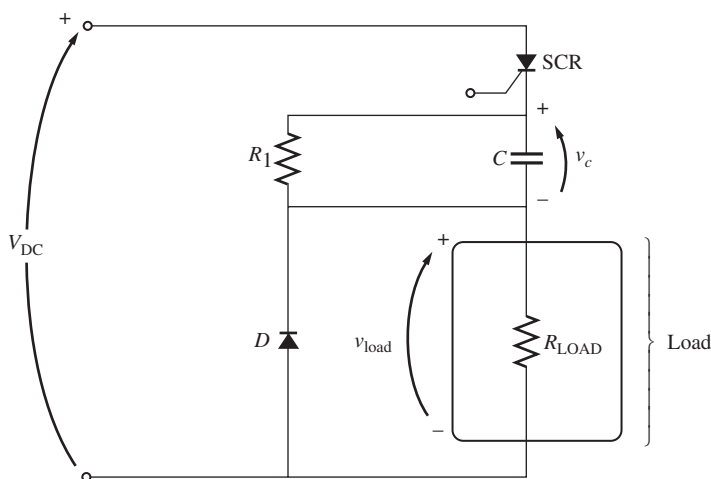

FIGURE P3–5
- 3–10.** A series-capacitor forced commutation chopper circuit supplying a purely resistive load is shown in Figure P3–5.
- 3–11.** A parallel-capacitor forced-commutation chopper circuit supplying a purely resistive load is shown in Figure P3–6.
- 3–12.** Figure P3–7 shows a single-phase rectifier-inverter circuit. Explain how this circuit functions. What are the purposes of C_1 and C_2 ? What controls the output frequency of the inverter?